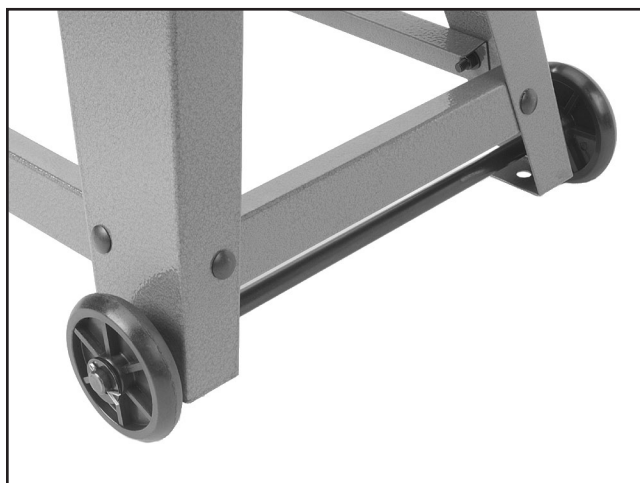

Figure 7. Axle and wheels.
4. Slide the axle through the two holes at the bottom of the legs as shown in **Figure 7**.